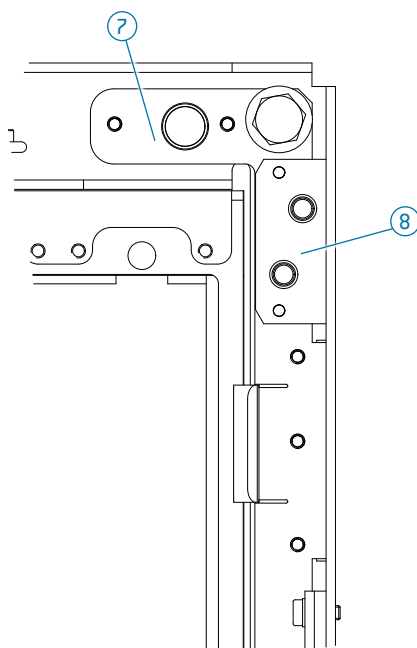

Fig. 143
- ▶ Please ensure that the resistor coding (8) lies flat and is mounted as shown in Fig 143.
- ▶ Tighten the screws (9).